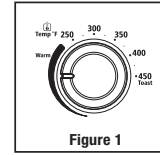

Figure 1
1. **Temperature Control Knob** – Adjust the dial thermostat to the desired temperature. (See Figure 1)